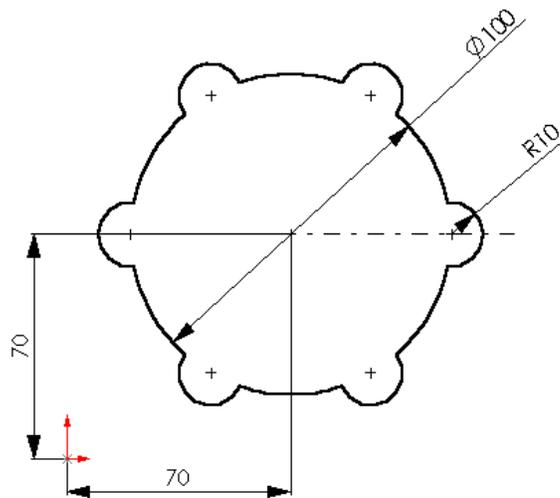

Figure 4-51 Outer loop of the sketch
12. Trim the unwanted portion of the outer arc using the **Sketch Trim** tool. This completes the outer loop. The sketch at this stage should look similar to the one shown in Figure 4-51.